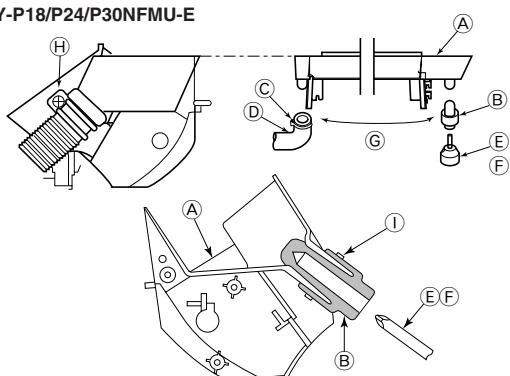

Fig. 5-3
■ PKFY-P18/P24/P30NFMU-E (Fig. 5-3)